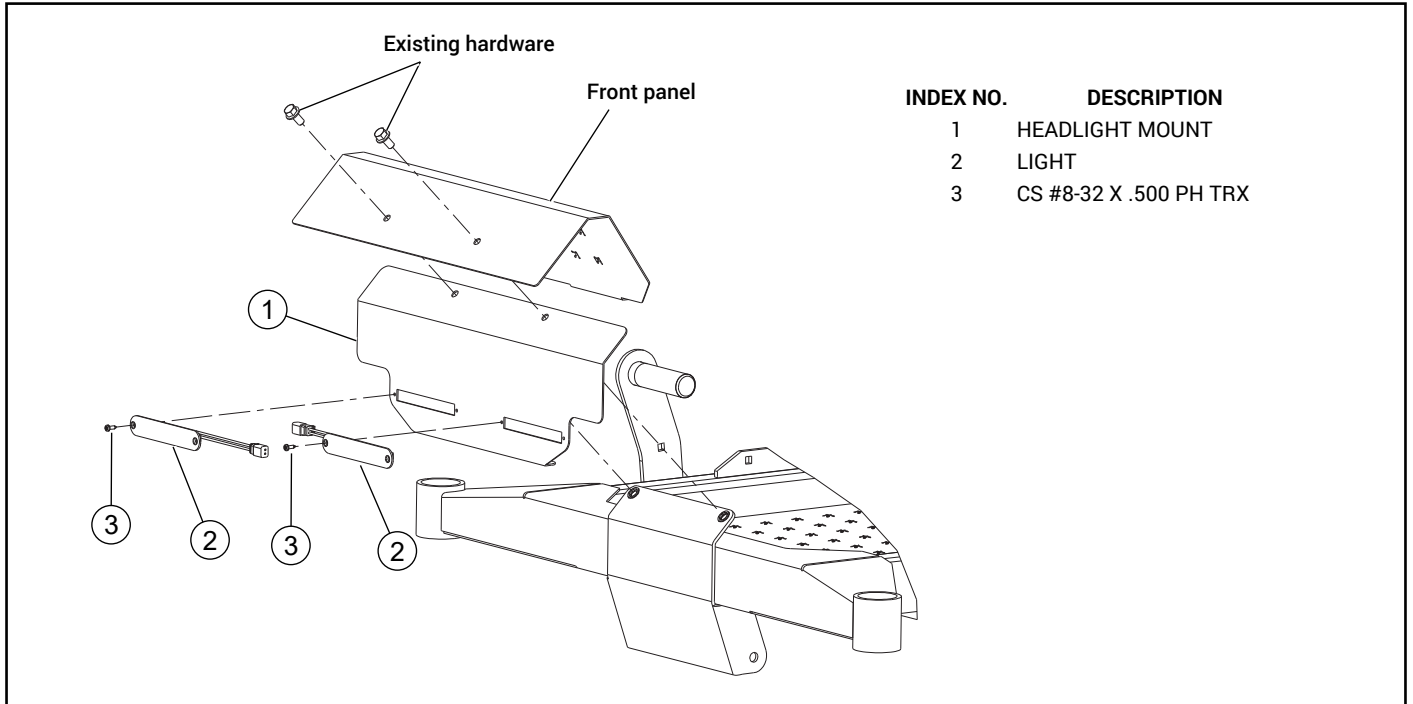

FIG. 1
2. Insert the headlights into the headlight mount. FIG. 1
5. Remove the existing front panel and place the headlight mount between the panel and the mower frame as shown. FIG. 1